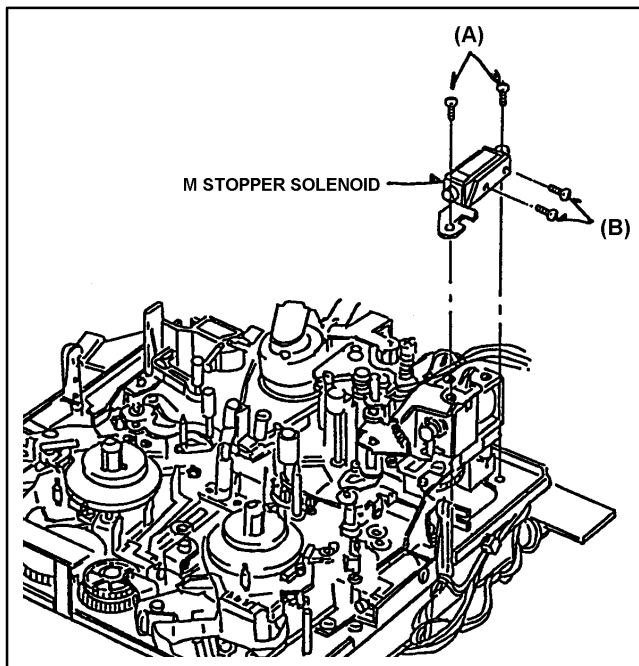

Figure 1-30-1
1. Remove the **connector (A)** on the **P.C.Board (B)**.
2. Unscrew the 4 screws (A) and (B) and remove the M-Stopper Solenoid as shown in Figure 1-30-1.